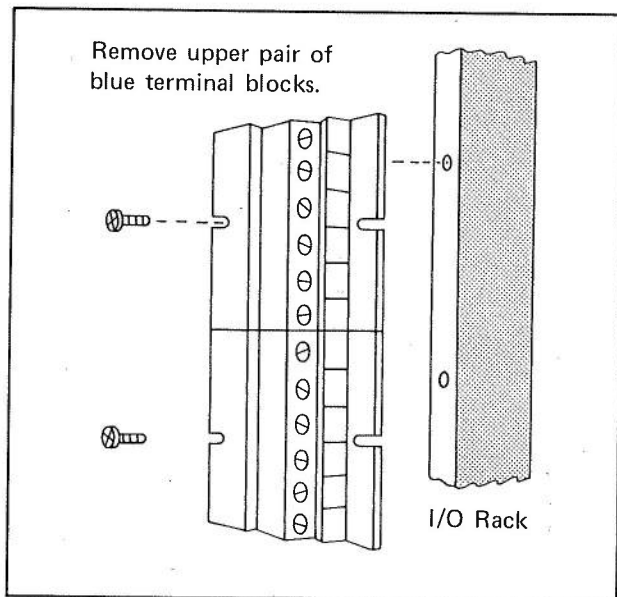
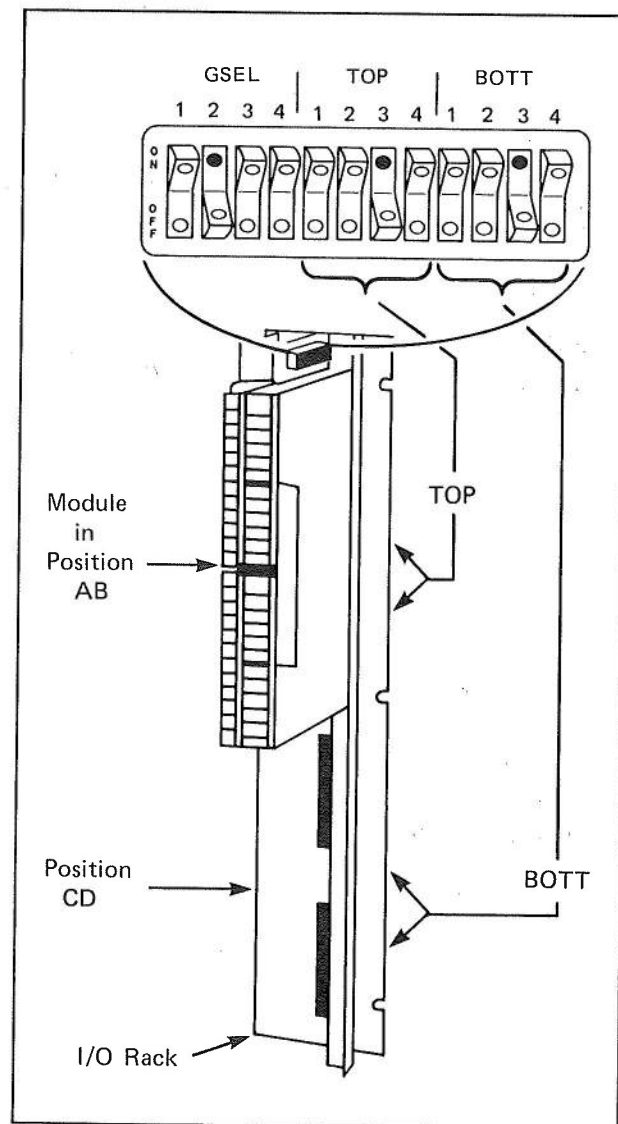

Figure 3 — Terminal Block Removal
Figure 4 — Rack Switch Location
Step 1 — Refer to the system drawings and determine the exact I/O Rack Positions in which the Module will be placed. (See Figure 4 for an explanation of "position.") Use a screwdriver to remove the terminal block adjacent to the top half of the Module. (It cannot be installed if the block remains in place. See Figure 3.)
Step 2 — Confirm the exact Positions the Module will occupy in the I/O Rack. (Although the Module can be placed in either the upper 2 Positions or the lower 2 Positions, it may not straddle Positions B and C. See Figure 4.) It is important that it be placed according to the user program Reference Number scheme.
Step 6 — On the I/O Rack in which the Module is placed, locate the Rack Switch assembly. It is located at the top right-hand side. (See Figure 4.)